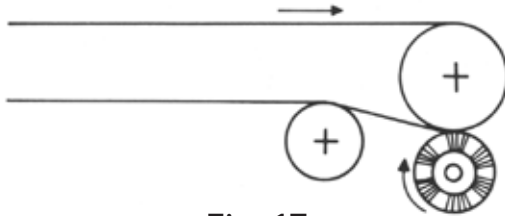

Fig. 17
**Dry materials can be cleaned off the belt with rotating bristle or rubber vane brushes, driven at fairly high surface speed, usually three to five times the belt speed (Fig. 17).** They wear rapidly, require considerable maintenance and are likely to fill up solid if used with wet and sticky materials. It is preferable to clean just after the head pulley and before the snub. An exception to this is that sticky material often requires scraping on the head pulley. This is because a large part of the fine material sticks to the belt and must be scraped into the chute.